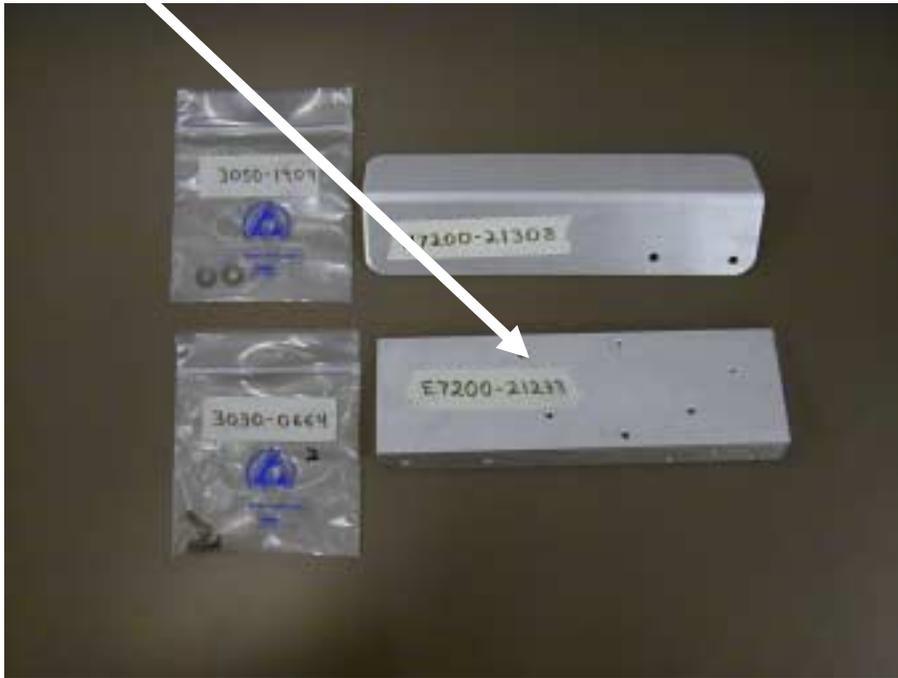

Figure 6.
12. Replace the E-Chain Support with the New E-Chain Support (Part # E7200-21233), using the same 3 screws (see Figure 6).